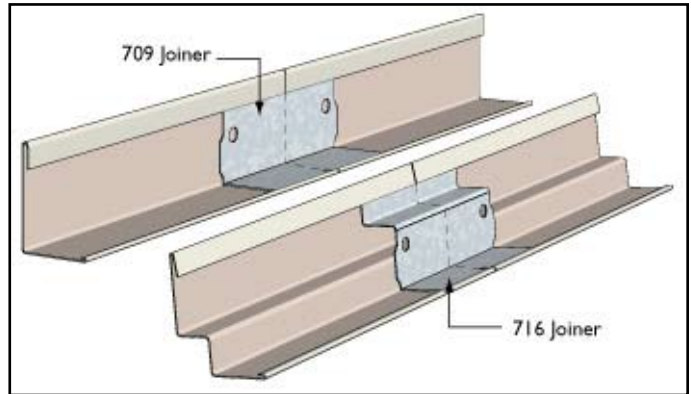

FIGURE 1: Wall Angle Joiners
3. Mark the ceiling height on the walls and fix the perimeter trim with suitable fasteners at max. 600mm centres, ensuring the fixing is made into the studs. Mitre the corner intersections and use joiners to connect angles as per Figure 1.